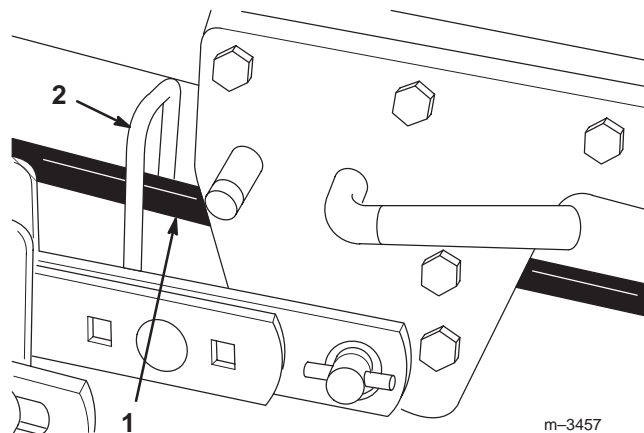

Figure 12
5. Hang the belt over the mower, then thread it forward through the belt guide (Fig. 12) on the mower.